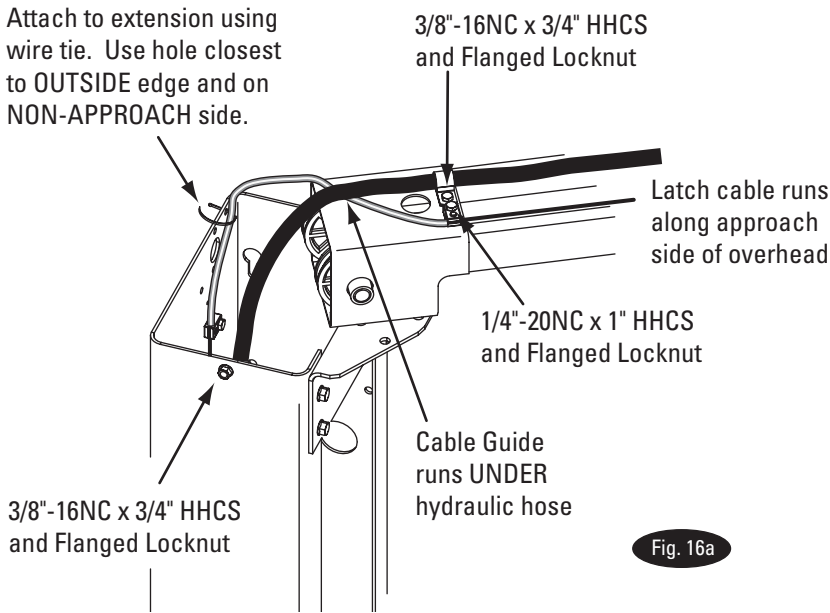
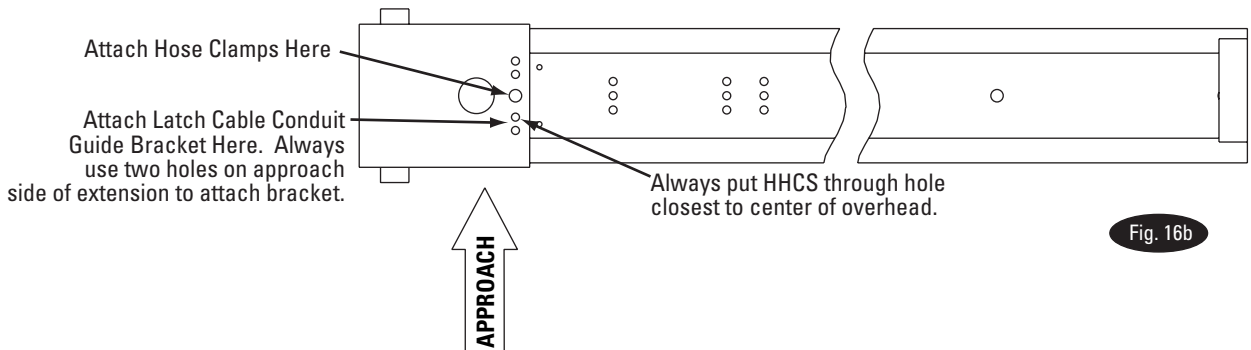
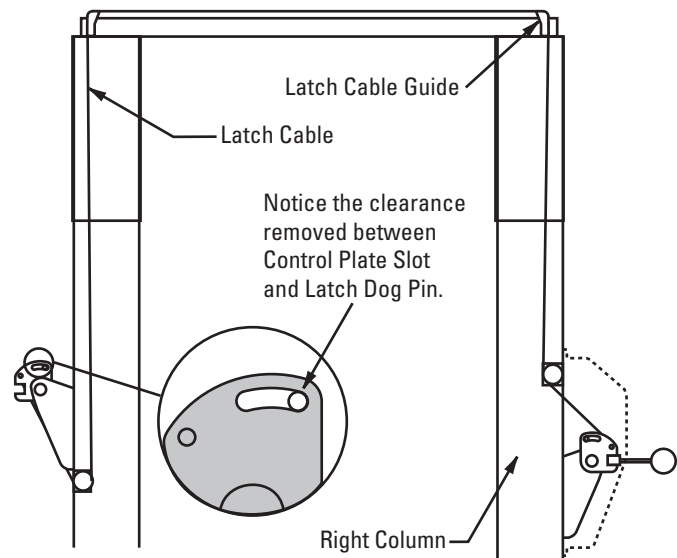
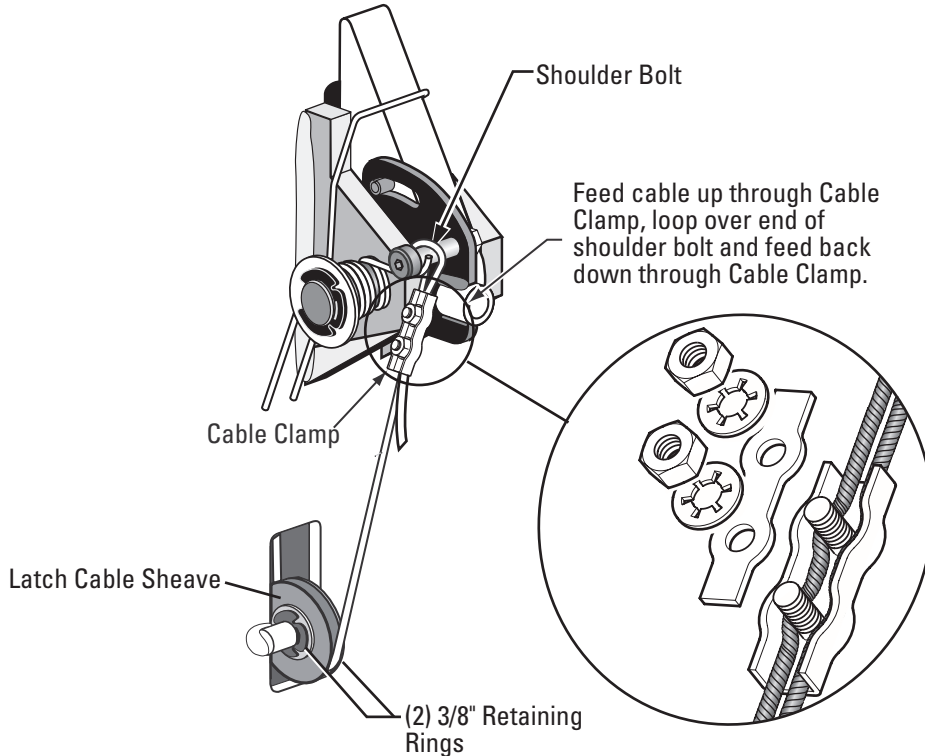

Fig. 16a
Fig. 16b
Fig. 18
Fig. 19
NOTE: Route Power Unit hose inside columns using slots provided at column base, Fig. 14. Route Overhead Hose in column channel on outside of column, Fig. 14. Overhead hose goes over top end of overhead assembly, Fig. 12 & Fig. 16a & Fig. 16b.
- D) Attach latch cable conduit guide brackets to overhead as shown, Fig. 16a & Fig. 16b. Always use the holes on the approach side of the lift. HHCS should be in hole nearest the center of the overhead, Fig. 16b.
- E) Route cable up inside column and through the latch cable guide, Fig. 16a & Fig. 18.
- IMPORTANT** Using wire ties provided, tie off cable guide to column extension as shown, Fig. 16a. Guide must be attached in hole closest to the outside edge of the column on the NON-APPROACH side.
- F) Continue routing cable to the left column latch cable guide, Fig. 16a & Fig. 18, routing the cable through the left column latch cable guide, Fig. 16a.
Using wire ties provided, tie off cable guide to column extension as shown, Fig. 16a. Guide must be attached in hole closest to the outside edge of the column on the NON-APPROACH side.
- G) Bring the cable down inside the left column and feed the end of the cable through the lower latch cable sheave slot so that the cable is now back outside the column, Fig. 19.
- H) Install latch cable sheave and retaining rings in lower slot of non-power unit column as shown, Fig. 19.
- I) Route cable under the bottom side of the latch cable sheave, Fig. 19.
- K) Insert cable in cable clamp along one side, loop around shoulder screw and back down, inserting cable along other side of cable clamp, Fig. 19. Place top back on clamp, barely tightening.
- L) Next, pull the control plate down, Fig. 18 & Fig. 19, to eliminate any clearance between the control plate slot and the latch dog pin, Fig. 18.